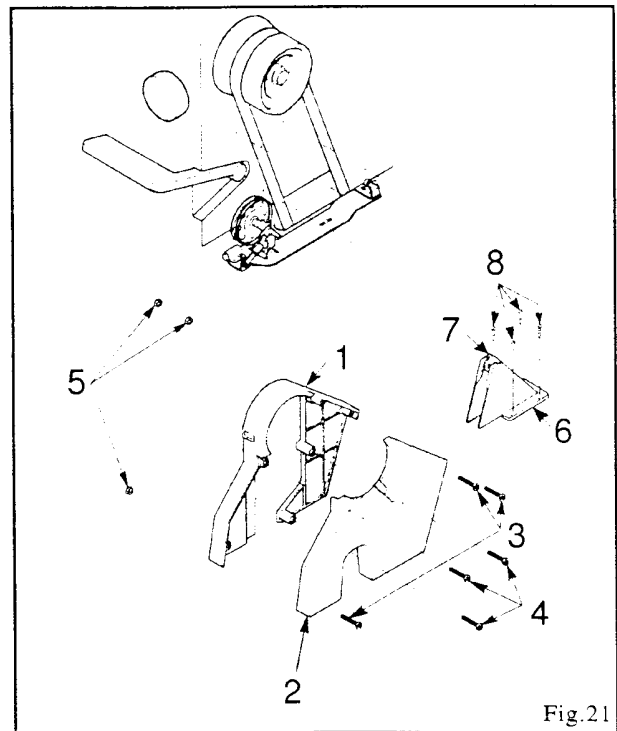

Fig.21
Fasten belt guards (1) and (2) to machine head with belt guard screws (3) and (4) and also with nuts (5) as shown in Fig. 21. Then fasten belt guard (6) to table with wood screws (8) making sure it will not interfere with belt guard (1) and (2), and so that the V-belt will rest against the belt guard slide (7) when machine is tipped back on its hinges.